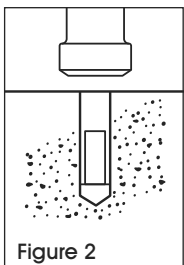

Figure 2
2. Drive anchor flush with surface of concrete. (See Figure 2)